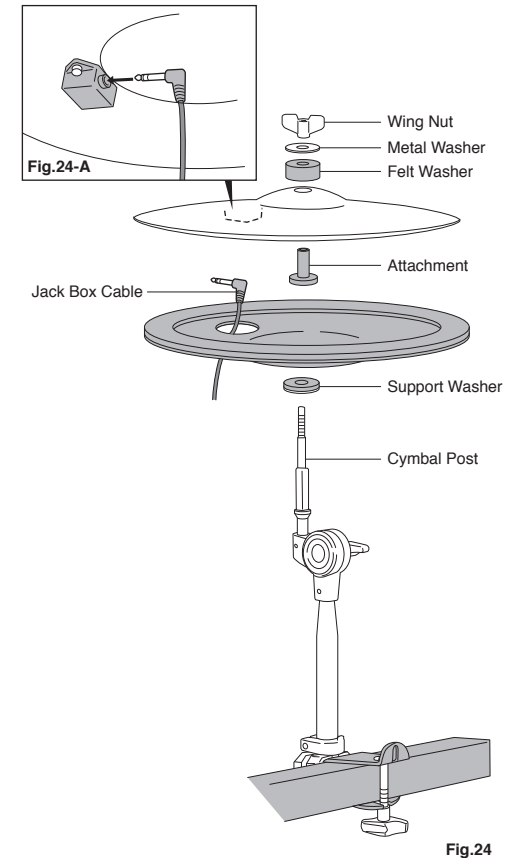

Fig.24
2. Place the Bottom Plastic Cymbal on the Support Washer as shown, and reattach the Attachment in the order shown (Fig. 24).
3. Pass the Hi-hat Cable through the hole in the Bottom Plastic Cymbal as shown (Fig. 24) and plug it into the Jack under the Brass Hi-hat Cymbal as shown (Fig. 24-A).
4. Assemble the Brass Hi-hat Cymbal, Felt Washer, Metal Washer, and Wing Nut in the order shown (Fig. 24).